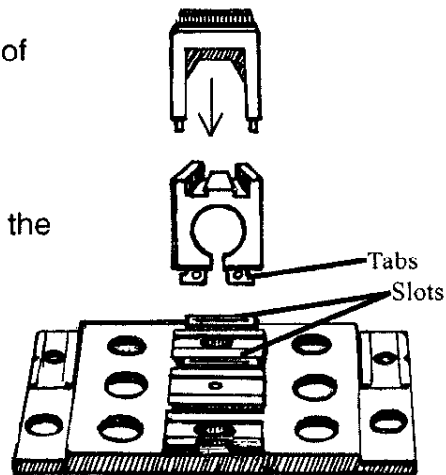

FIGURE 2
Refer to FIGURE 2
- Place the **base plate** down as shown in figure 2. Attach the **7" curve track** to the top of the bottom stacking bridge. The curve should be facing as shown.